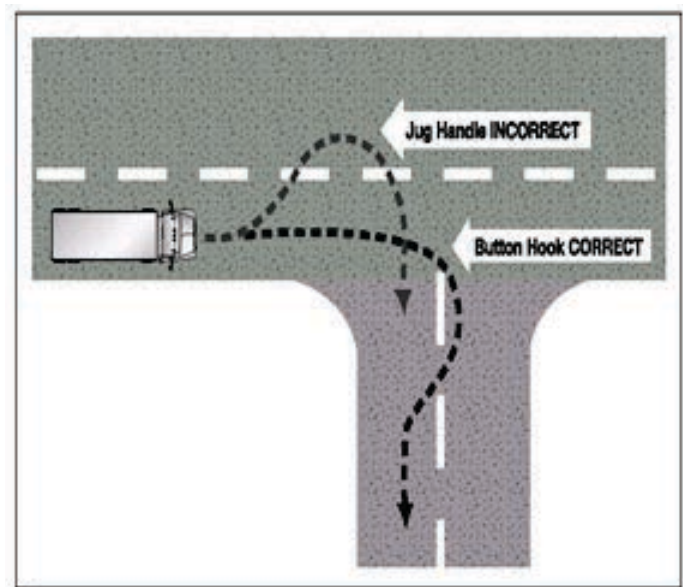

Figure 2.12
- ✓ If you must cross into the oncoming lane to make a turn, watch out for vehicles coming toward you. Give them room to go by or to stop. However, don't back up for them, because you might hit someone behind you. See Figure 2.12.